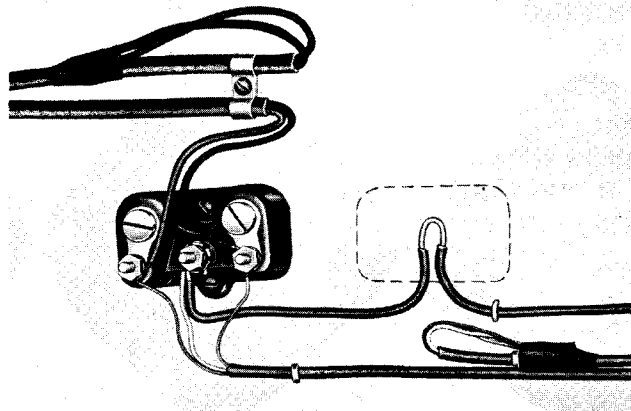

Fig. 16 — Series of Protectors
- When protector ground wire is not continuous after removal of one of a series of protectors, place a new strap or use a 2A bridging connector (see Fig. 16).